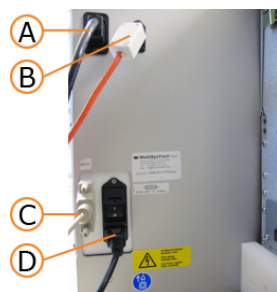

Figure 9. Electrical connections on Syro.
- The Initiator must be connected to the power outlet at the rear left side of the Syro (see A in Figure 9 on page 5). No equipment other than the Initiator (when using Syro *Wave*) or the external fan supplied and installed by Biotage (when using Syro I or Syro II) must be connected to this outlet.